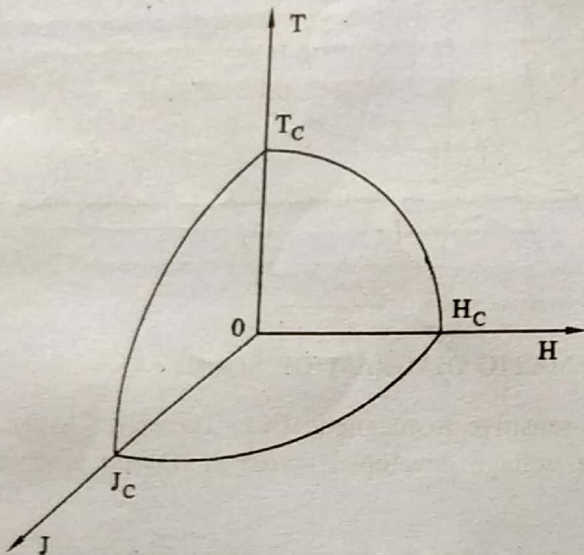

FIG. 5.10
- We can prepare a surface in three dimensional 'space' defined by T , H_{ext} and J as shown in Fig. 5.10.
- The surface shown in Fig. 5.10 is called critical surface (T_c , J , H) points within the surface give superconducting state.